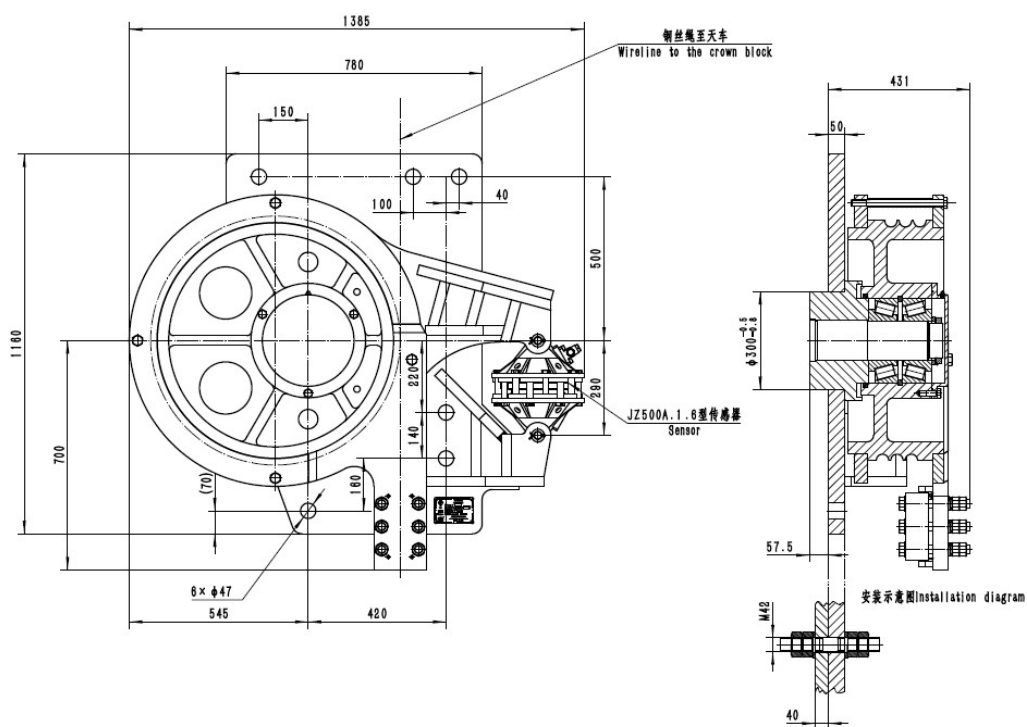

Figure 2 Outline and installation diagram
5. The design of installation board for deadline anchor should comply with Attached Figure 2. The detailed installation place should be determined by the rig manufacturer.